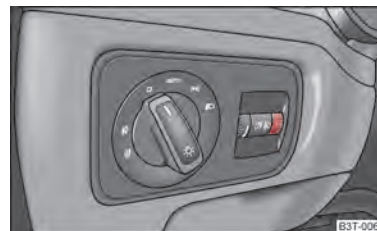

Fig. 38 Dash panel: Lights and Visibility
- Turn the control dial ⇒ fig. 38 until you have adjusted the low beam so that oncoming traffic is not dazzled.